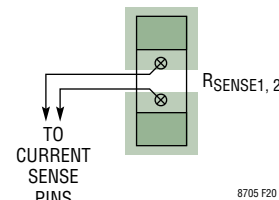

Figure 20. Suggested Routing and Connections of CSP/CSN and ISP/ISN Lines
- Route the CSP/CSN and ISP/ISN lines differentially (close together) from the chip to the current sense resistor as shown in Figure 20.
- Place the vias that connect the CSP/CSN and ISP/ISN lines directly at the terminals of the current sense resistor as shown in Figure 20.